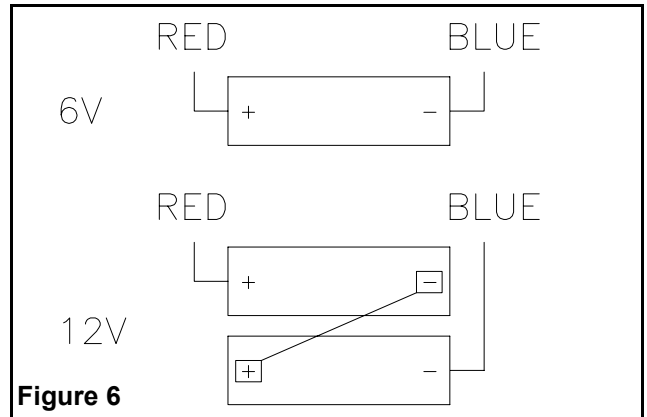

Figure 6
- Put batteries and electronic module back in place as shown on figure 5. See figure 6 for batteries wiring diagram.
- Put the batteries back in place . Battery heater is placed in between the battery and the backplate. See figure 6 for batteries